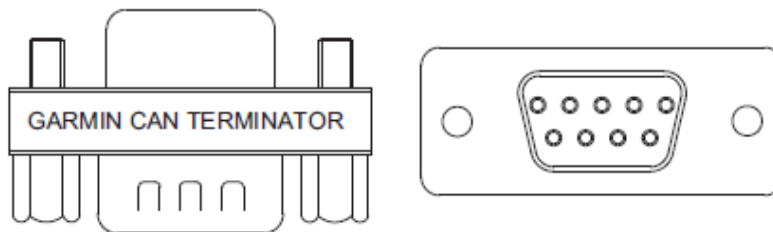
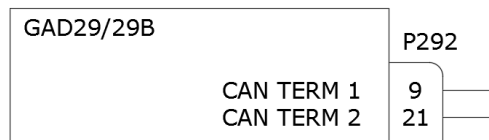

Figure 3-4 CAN Bus Termination (011-02887-00) for G5 and GMU 11
Figure 3-5 CAN Bus Termination for GAD 29/29B
- The G5 and GMU 11 installation kits provide a 9-pin termination adapter that provides termination when attached to the device’s main connector. The termination adapter contains a 120 Ω resistor that is connected between pins 1 and 2 (Figure 3-4).
- The GAD29/29B contains a 120 Ω resistor inside the unit that provides termination when the two CAN TERM pins are connected together (Figure 3-5). Alternatively the GAD29/29B can be terminated externally using a termination adapter, Garmin P/N 011-02887-00 (Figure 3-4).